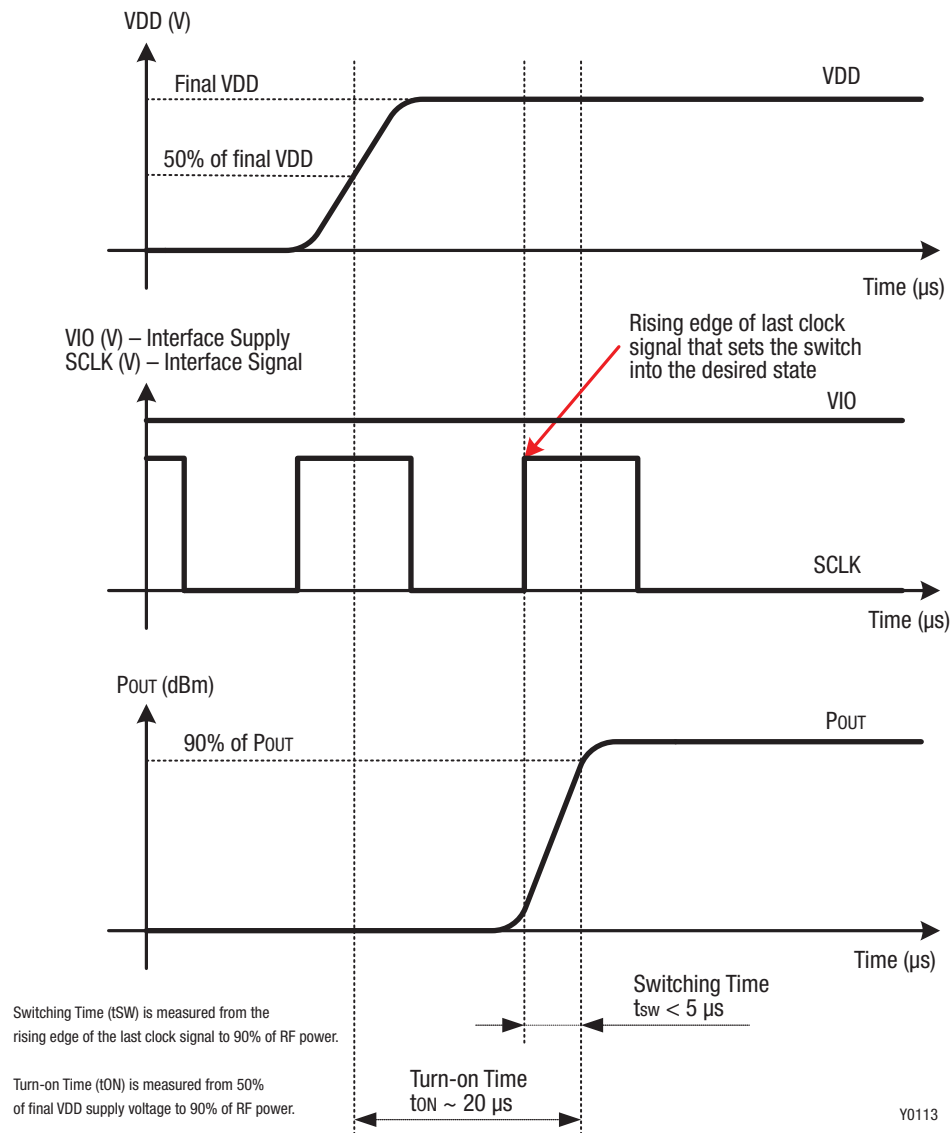

Figure 3. SKY13491-21. Timing Diagram
Figure 3 shows a timing diagram. Figure 4 illustrates the test setup used to measure intermodulation products. This industry standardized test is used to simulate the WCDMA Band 1 linearity of the antenna switch. A +20 dBm Continuous Wave (CW) signal, f_{FUND} , is sequentially applied to the TRX1 through TRX12 ports, while a –15 dBm CW blocker signal, f_{BLK} , is applied to the ANT port.